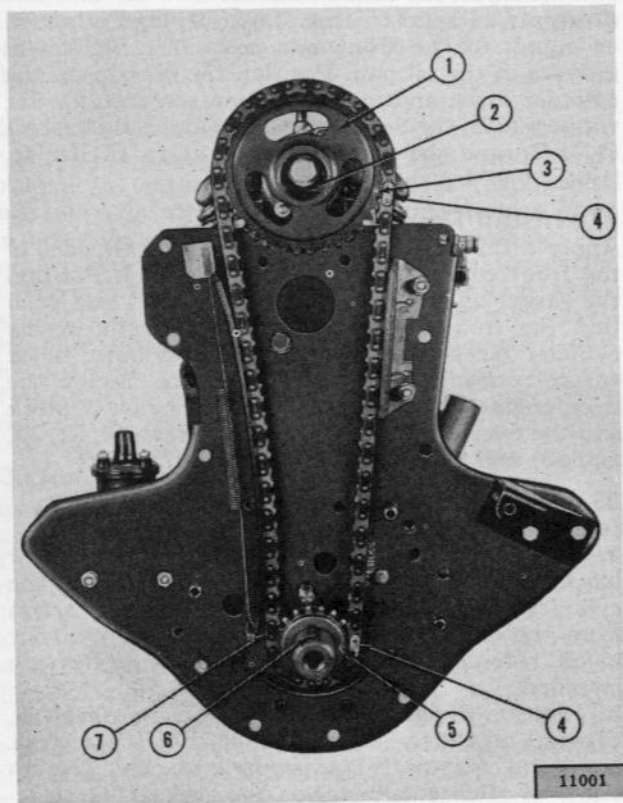

FIG. 130—TIMING CHAIN INSTALLED
**a.** Turn over the engine until air starts to blow from the No. 1 spark plug port to indicate that the No. 1 piston is on the compression stroke. Continue to turn over the engine until the keyways in the crankshaft are in the 12 o'clock position to indicate that the No. 1 piston is at top center (Fig. 130.)